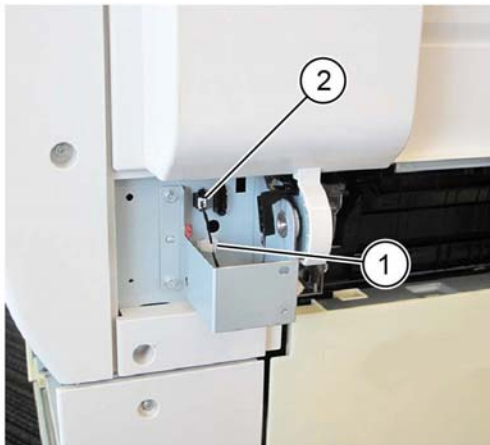

Figure 3 Connector
4. Disconnect the connector, **Figure 3**:
- a. Release the harness from the retainer (1).
- b. Disconnect the connector (2).